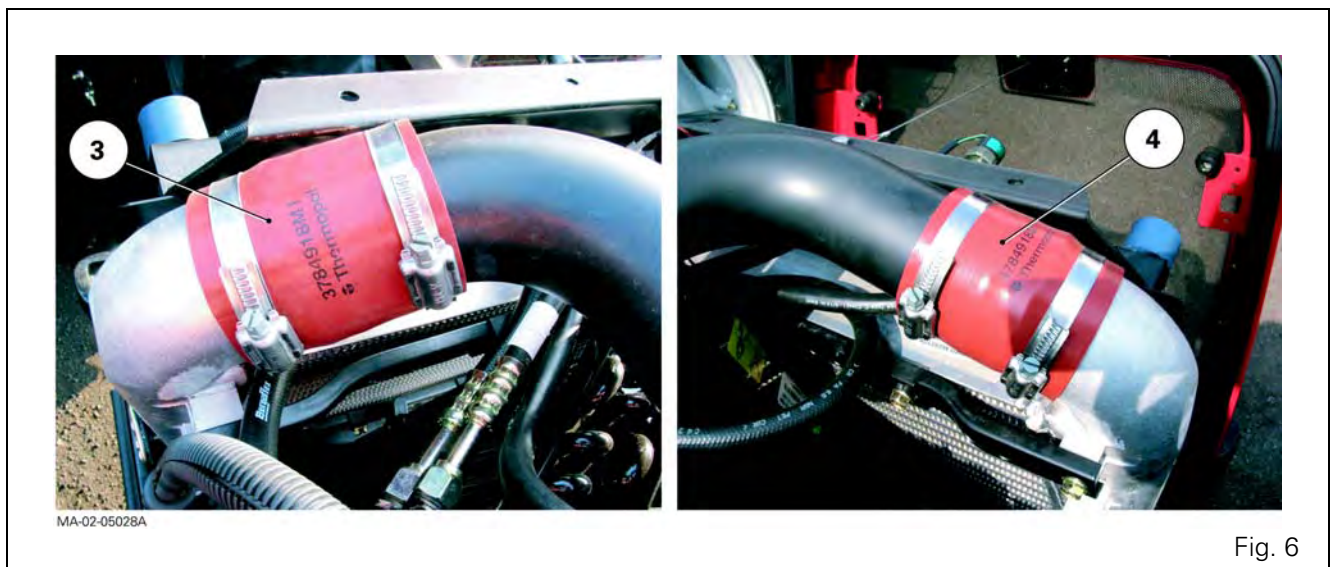

Fig. 6
14. Disconnect the air sleeves (3) and (4) on the air cooler located inside the grille (Fig. 6).